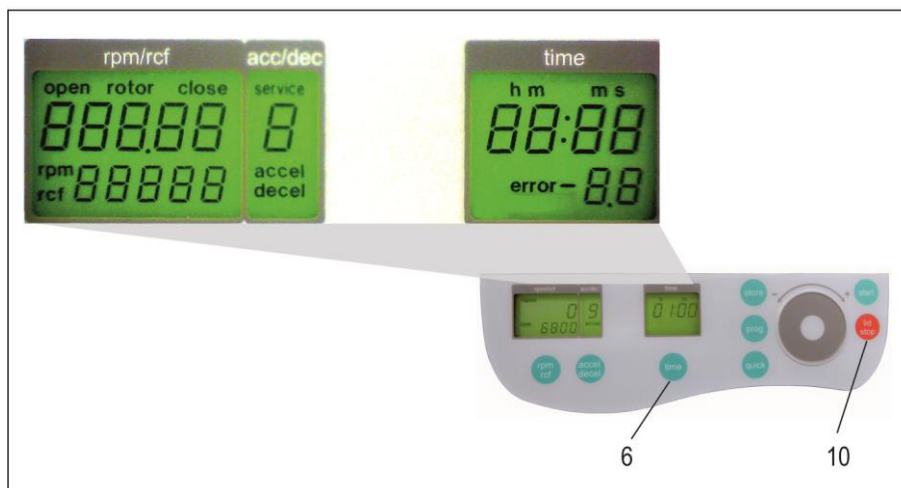

Figure 1
Open the centrifuge lid and shut off the main switch. Now switch on again the main switch. For approximately 3 seconds “Soft” will be shown in the display. Press during this time the keys “time” (6) and “lid” (10) simultaneously. As a result, a display test is administered for approx. 3 seconds. All possible indications will appear at the same time (see Figure 1). The LED light is flashing alternately with green and red color.